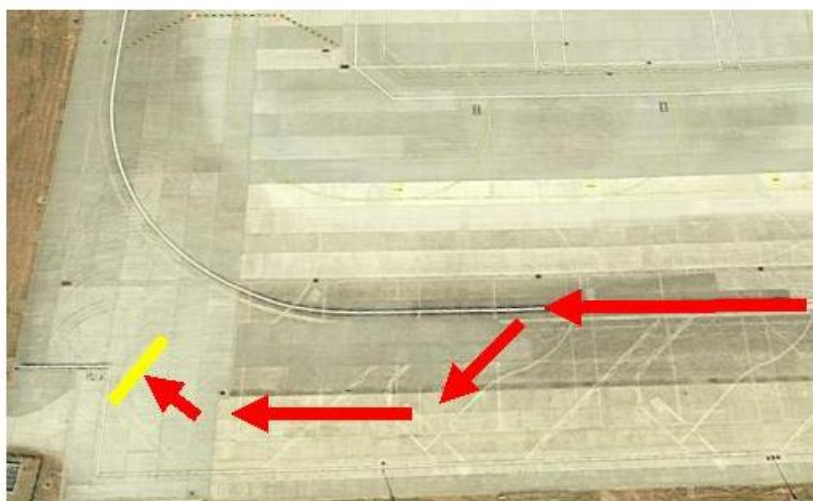

Figure 2 – Route to be followed and remote holding position
- 3.10 When push-back and towing clearance has been received, the aircraft shall be pushed onto the taxiway/taxi-lane centreline and then towed to Stand 23. On reaching Stand 23, the aircraft will be parked facing North-West as per Figure 2 which indicates for illustrative purposes, the route to be followed in red and the approximate stop line position in yellow.